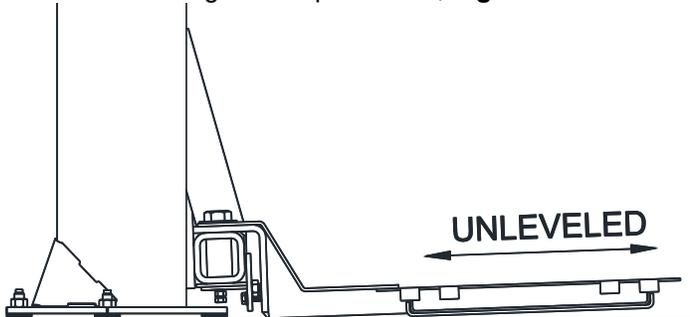

Fig. 8 LIFT ALLOWED TO LOWER TOO FAR
9. Once the proper sync cable adjustment is established, lower the lift to the floor noticing which point of each Pad Structure touches the floor first. When the lift is lowered further, the Pad can have the tendency to become unlevelled – the carriage lowers, while the inside edge of the pad raises, **Fig. 8**.